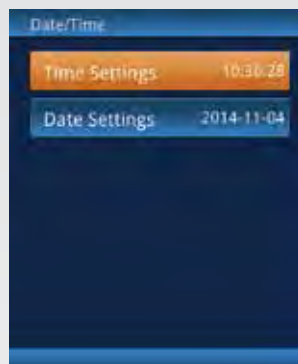

Fig 7.18-1
- From the System Settings menu, use the **▲** or **▼** keys to highlight the Date/Time menu option. Touch **OK** to access the Date/Time menu. (**Fig 7.18-1**)